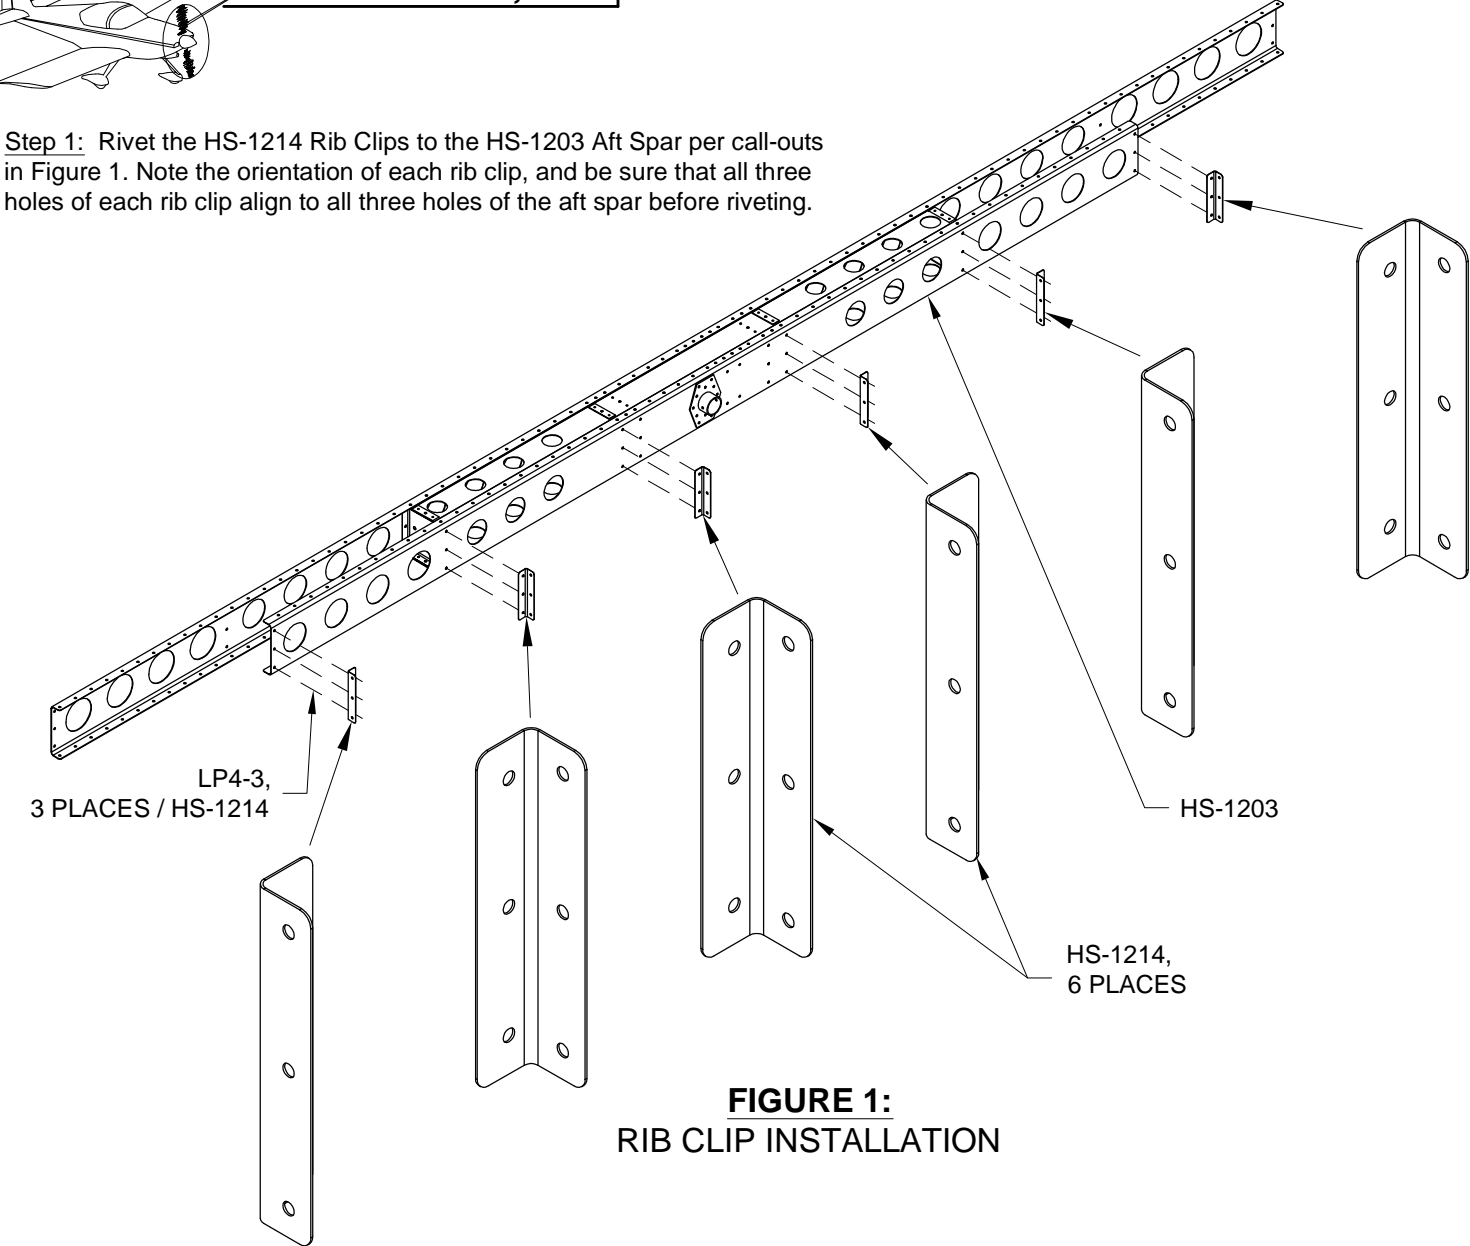

FIGURE 1:
Step 1: Rivet the HS-1214 Rib Clips to the HS-1203 Aft Spar per call-outs in Figure 1. Note the orientation of each rib clip, and be sure that all three holes of each rib clip align to all three holes of the aft spar before riveting.